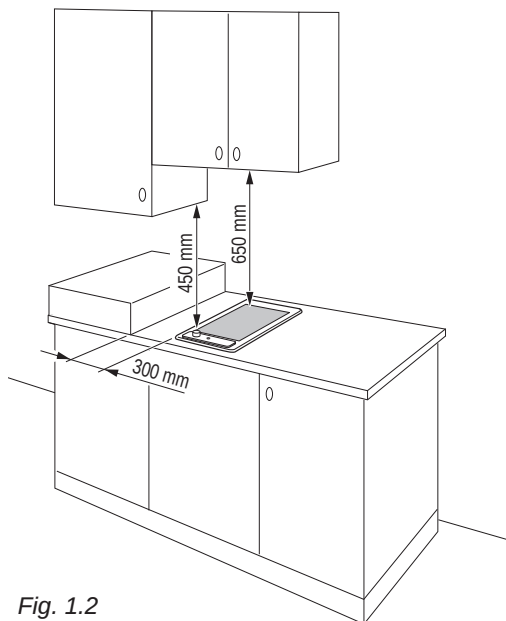

Fig. 1.2
- any wall to the side and above the appliance must be at least 300 mm away (fig. 1.2);
- there must be a distance of at least 650 mm between the appliance and any wall cupboard or extractor hood positioned immediately above (see fig. 1.2);